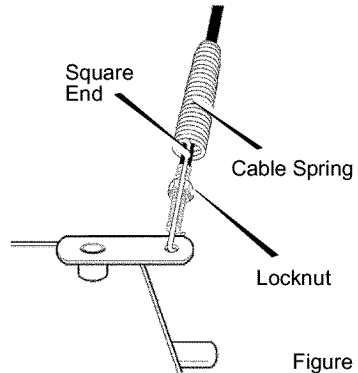

Figure 43
3. Push cable through spring to expose the threaded portion of the cable (see Figure 43).